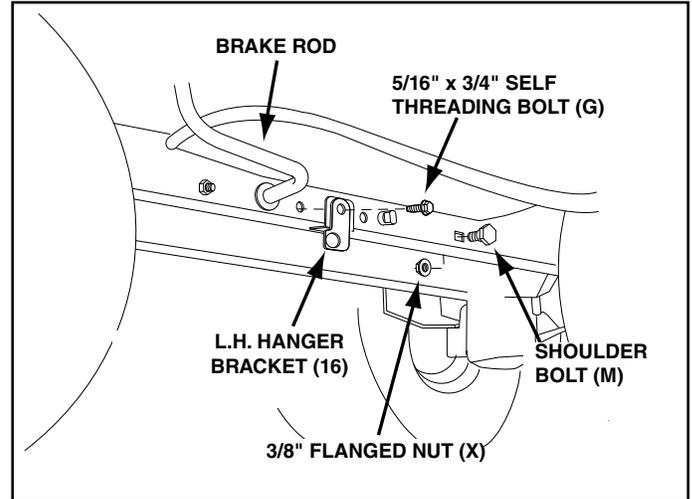

FIGURE 5 LEFT SIDE VIEW
STEP 5: (SEE FIGURE 5)
- Attach the L.H. Hanger Bracket (16) to the hole using a 5/16" x 3/4" self threading bolt (G).
- Install a shoulder bolt (M) into the hole that is 9-1/2" to the rear of the bolt you just installed. Secure it with a 3/8" flange nut (X) on the inside of the frame.